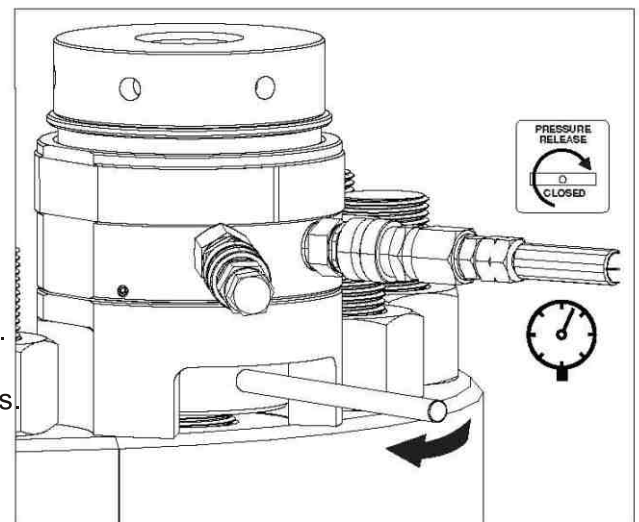

Figure 4.2-2 Turning Down the Socket and Nut
- 4.2.7 While holding the pressure constant, use a tommy bar to turn down the first socket and nut by hand. Continue tightening until the nut is firmly seated against the joint surface. See Figures 4.2-2 and 4.2-3.
- 4.3.8 While holding the pressure constant, use a tommy bar to turn down the first socket and nut by hand. Continue tightening until the nut is firmly seated against the joint surface. See Figures 4.2-2 and 4.2-3.
4.3.19 While holding the pressure constant, use a tommy bar to turn down the first socket and nut by hand. Continue tightening until the nut is firmly seated against the joint surface. See Figure 4.2-2 and 4.2-3.